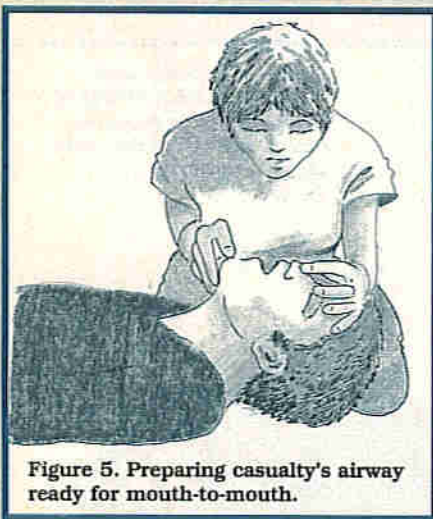

Figure 5. Preparing casualty's airway ready for mouth-to-mouth.
- Open your mouth wide, take a deep breath, pinch the casualty's nostrils together with your fingers and seal your lips around the casualty's mouth as shown in Figure 5.